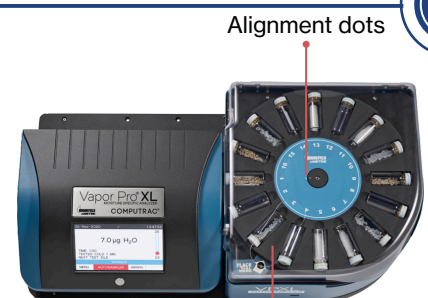

Figure 4
- Place the carousel on the Autosampler, ensuring that the dots on the carousel and spindle are aligned and the in in the spindle lined up with the alignment hole under the carousel (fig. 4).